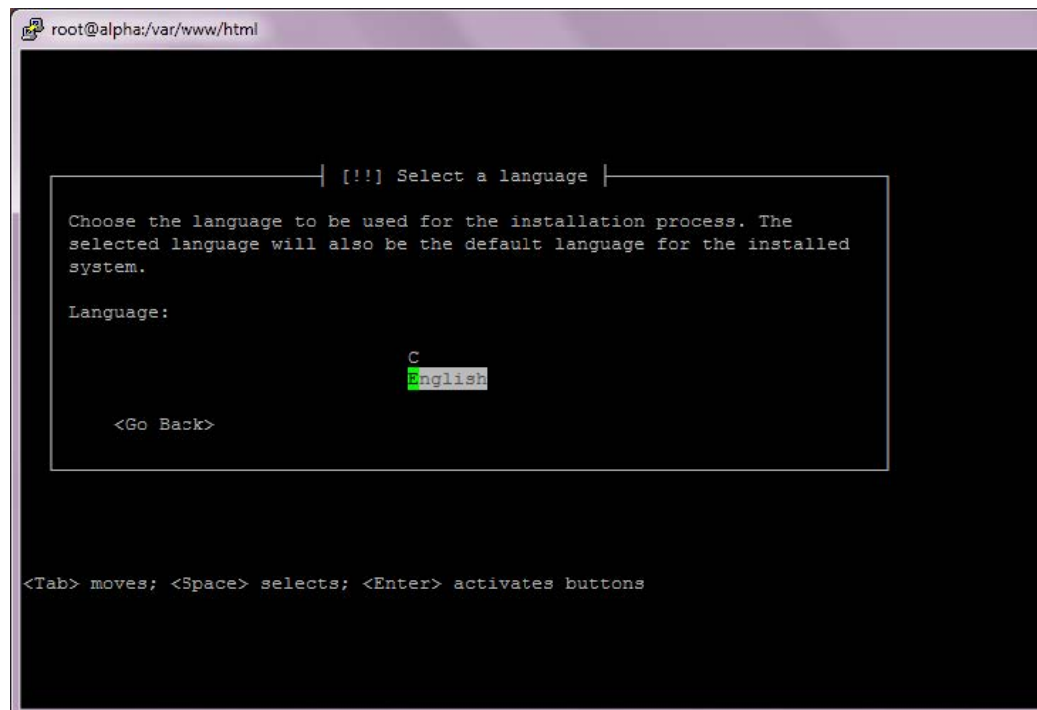

Figure 3.11 Linux installation screen
4. In the terminal emulator window, the first screen of the Linux installer appears as shown in Figure 3.11 on page 43. Continue through the screens, following the online instructions to complete the operating system installation.